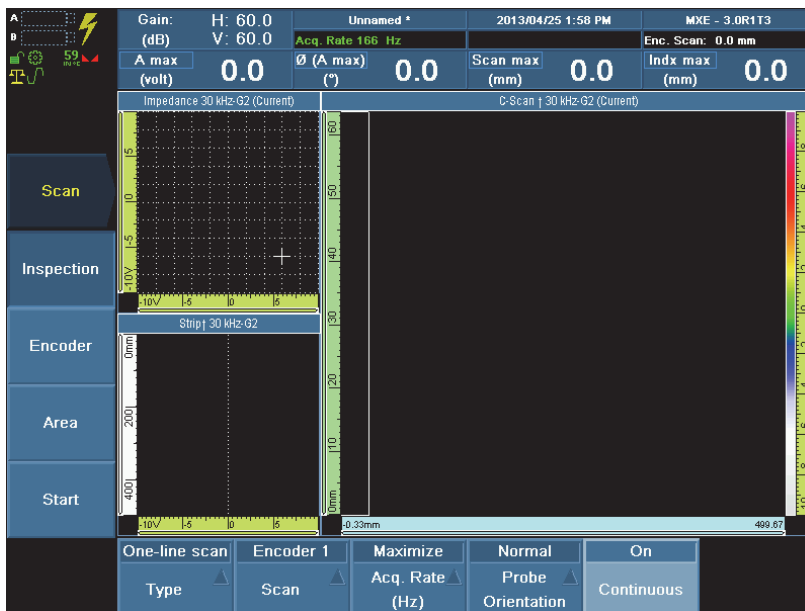

Figure 9-7 Setting the probe encoder to Continuous mode
- Set the encoder to Continuous mode. Select **Scan > Inspection > Continuous = On**, and then press the Accept key to confirm (see Figure 9-7 on page 137).